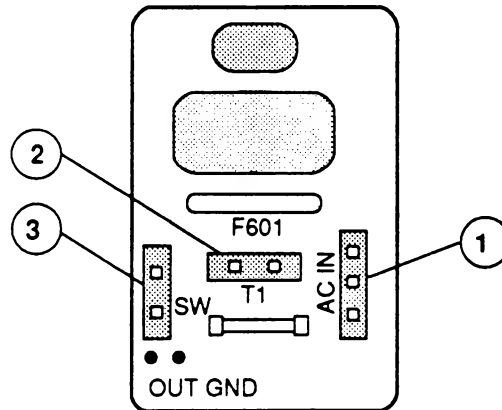

FIGURE 17
- AC IN (Figure 17, #1)
- T1 (Figure 17, #2)
- SW (Figure 17, #3)